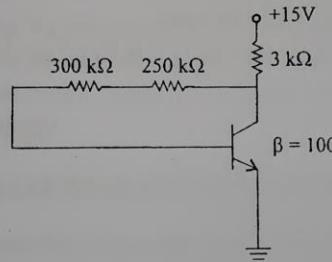

Fig. 1.40
**Example 1.11** For the circuit shown in Fig. 1.40 , find  $I_B$ ,  $I_C$  and  $V_{CE}$ .